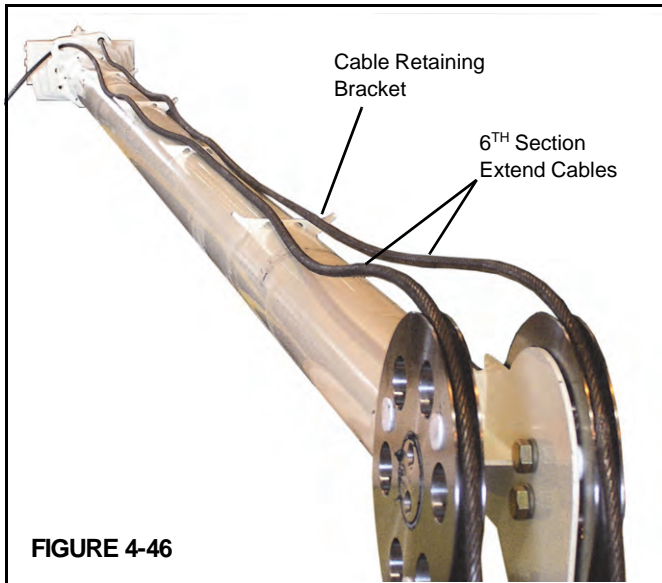

FIGURE 4-46
- f. Install the 6TH section extend cables as shown in Figure 4-46. The threaded cable ends need to be through the holes in the 4th section trunnion. Make sure the cables are on the cable retaining brackets as shown.
NOTE: If the cables are not installed on the retaining brackets as shown in Figure 4-46, the cables will become lodged between the cylinder and the 6TH section boom and damage the cables.